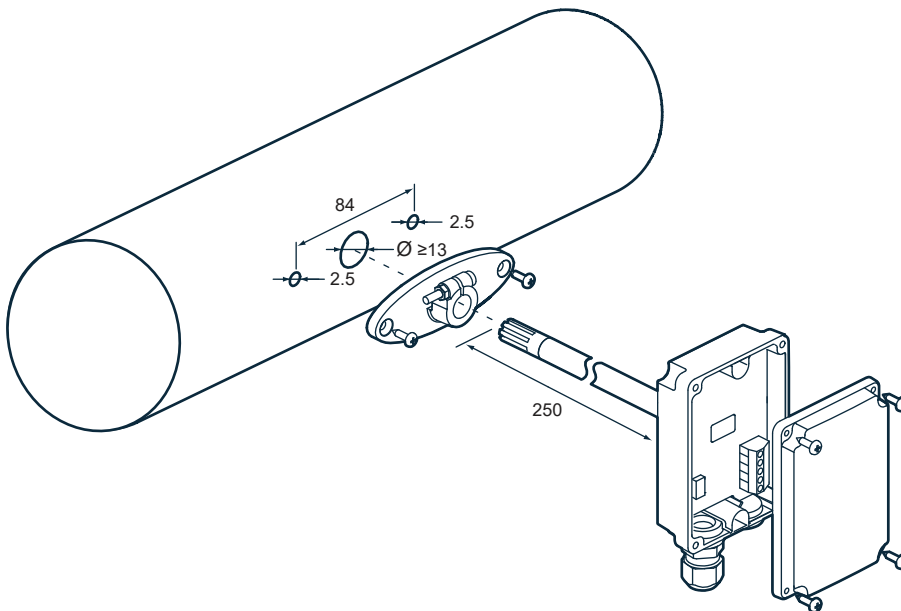

Figure 12 Duct model installation
3. Drill the installation holes in the duct. See Figure 12 \(page 22\).